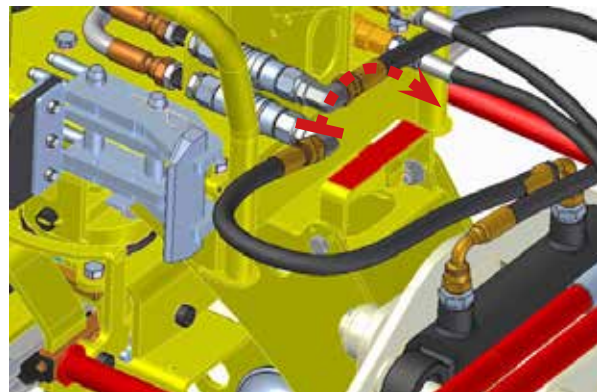

Figure 59. Open
1. Unlock the tool from the trolley by opening/turning the hatches on the trolley "Figure 59"